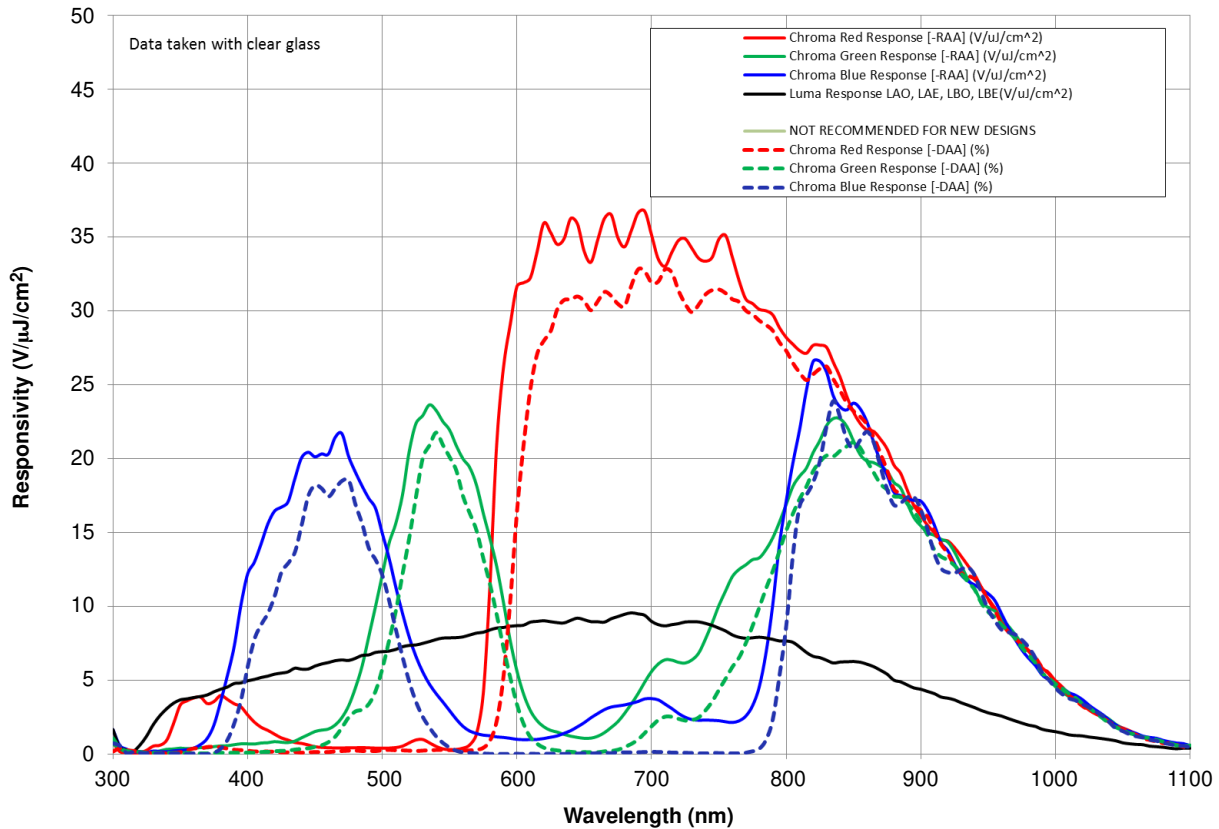

Figure 12. Typical Responsivity for KLI-4104-RAA-CB Configuration (Sealed Clear Glass)
2. With color filter. Values specified at filter peaks. 50% bandwidth = ± 30 nm. Color filter arrays become transparent after 710 nm. It is recommended that a suitable IR cut filter be used to maintain spectral balance and optimal MTF. See Figure 12.